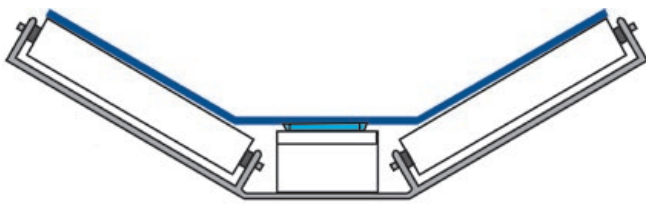
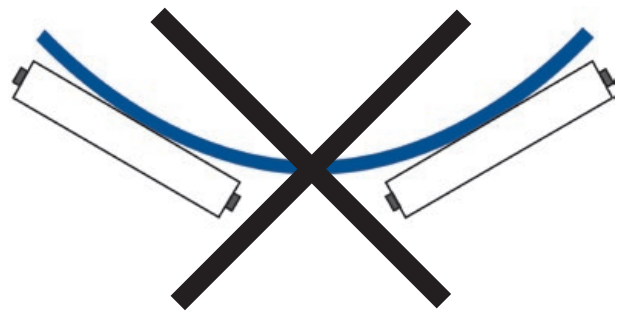

Figure 22
Figure 23
- Support rollers are recommended to reduce the belt drag, particularly in dry applications. Support roller options include 2 angled rollers ('rabbit ears') with UHMW-PE center support rails, see Figure 22. We do not recommend 2 angle rollers without any center support, see Figure 23